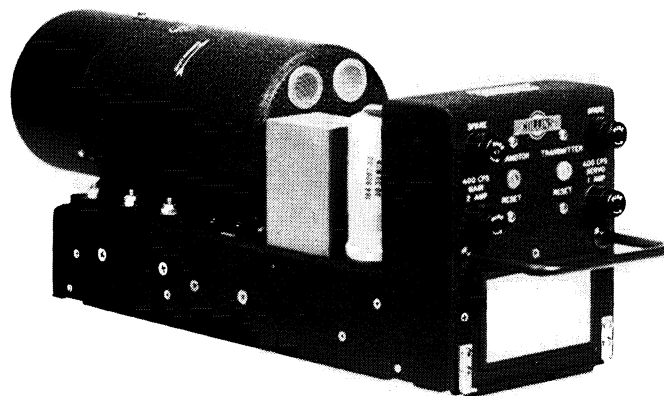

Figure 1-6. Power Supply 416W-1
1.6.1 POWER SUPPLY 416W-1. See figure 1-6.